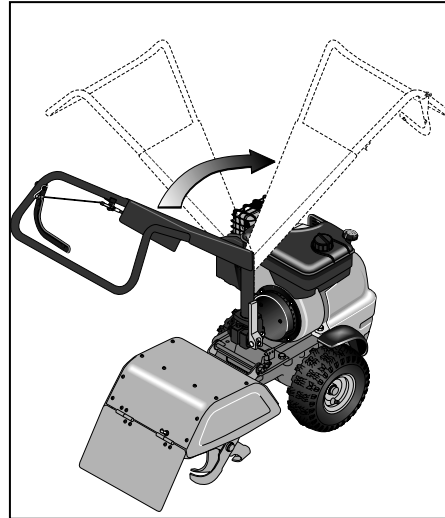

Fig. 4-6
4. Grasp the handlebar and walk it around the muffler cage side of the engine a full 180° until the handlebar is positioned over the top of the engine. Refer to Fig. 4-6.